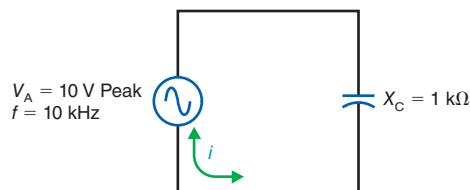

Figure 17-10
- 17.1 In Fig. 17-10, what is the
- 17.2 In Fig. 17-10, draw the phasors representing V_C and i_C using